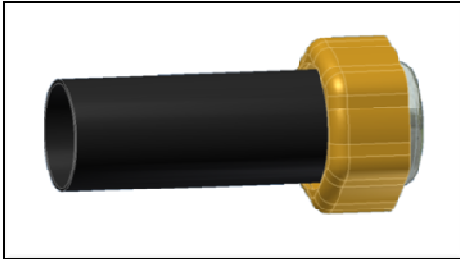
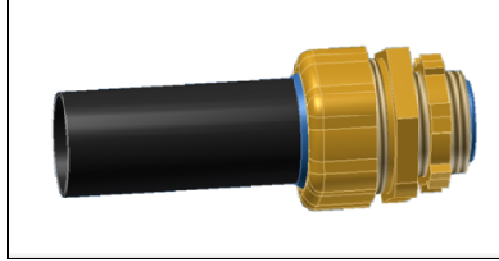

Fig. 4
Fig. 5
6. Assemble the nut, gland packing and ferrule (see fig. 4), and lock onto the body. Tighten the nut and the body with wrench to make sure the liquid-tightness and grounding. (See Fig. 5)